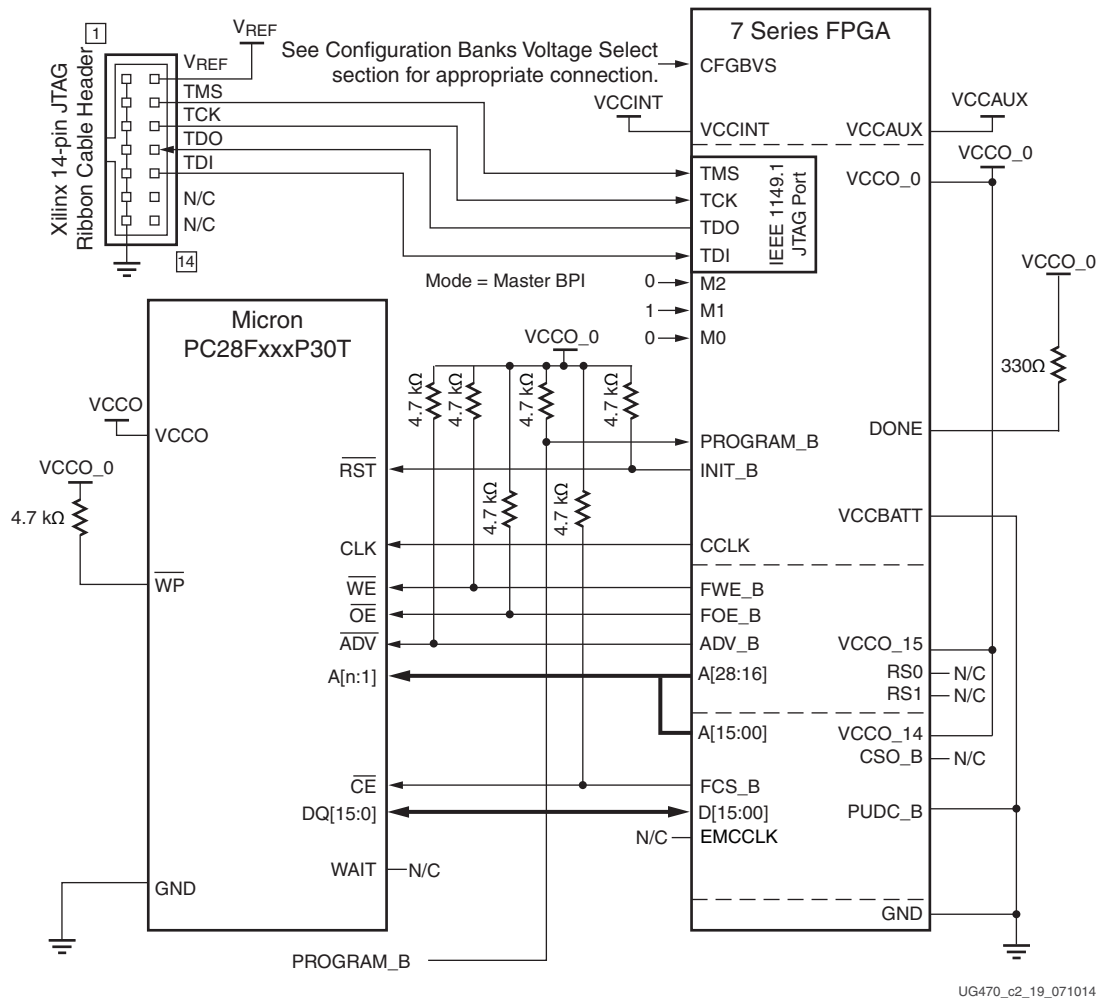

Figure 2-19: 7 Series FPGA Master BPI Configuration Interface Synchronous Read Example
The 7 series FPGA Master BPI configuration mode can optionally read a bitstream from select BPI devices that support burst, synchronous read mode as illustrated in Figure 2-19 and described in Synchronous Read Mode Support, page 61. A BPI device that supports the synchronous read mode latches a given start address from the FPGA into its internal address counter. Then given a clock, the flash outputs data from the next sequential address location to its data bus during each clock period. In the synchronous read mode, a BPI device can deliver data many times faster than through its asynchronous read interface.
The Master BPI synchronous read mode (Figure 2-19) supports the flash families in Table 2-14 with synchronous support. The FPGA starts in asynchronous read mode, using the default CCLK frequency, and the bitstream header determines if the read mode continues asynchronously or if it switches to the faster synchronous read mode. Bitstream commands initiate the switch from asynchronous read to synchronous read if the **BPI_sync_mode** option is set. There are two available settings for the option: Type1 or Type2. Type1 is used to set the G18F flash family synchronous and latency bits and Type2 is used to set the P30. The switch to synchronous mode is done by the FPGA controller, which performs an asynchronous write to the BPI flash configuration register to set the device into synchronous mode and initiate a bitstream reread. To support the synchronous read mode, the FPGA CCLK output is connected to the BPI flash device, and the ADV_B FPGA signal must be connected to the Micron flash \overline{ADV} signal.
Notes relevant to Figure 2-19:
1. The 7 series FPGA synchronous read mode requires a few additional connections over the asynchronous mode. The FPGA CCLK must be connected to the flash CLK signal and the FPGA ADV_B must be tied to the flash ADV signal. This setup shown in Figure 2-19 supports the FPGA powering up initially in asynchronous mode and then switching over to synchronous mode.
5. Only the x16 data width shown in Figure 2-19 is supported by the synchronous read mode.
7. The RS[1:0] pins are not connected as shown in Figure 2-19. These output pins are optional and can be used for MultiBoot configuration. See Chapter 7, Reconfiguration and MultiBoot.
10. The FPGA mode (M[2:0]) pins are shown set to Master BPI mode (010). The implementation of a board-level option that enables the user to change the FPGA mode pins to JTAG mode (101) is recommended to enable JTAG-based debug capability for the FPGA during design. This is not required, but the JTAG mode setting ensures that there is no interference from the Master BPI configuration during debug.